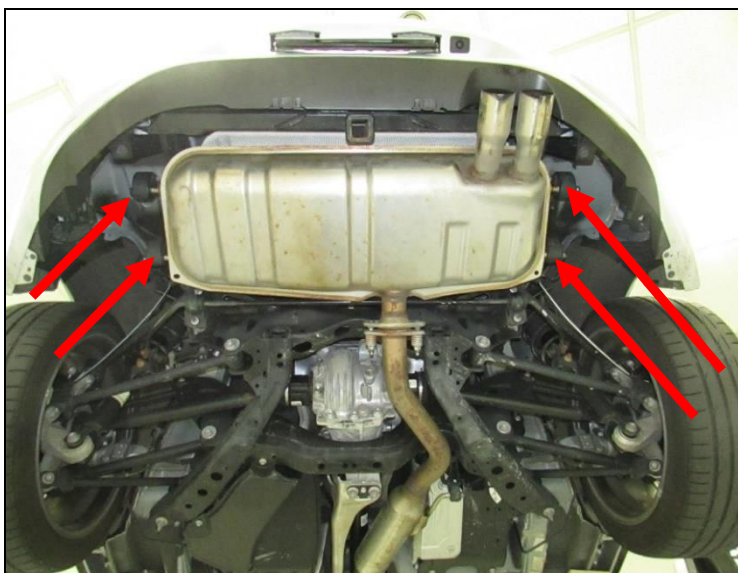

Figure 2
4. Spray the (x4) rubber isolator with lubricant. We recommend using WD-40® or equivalent (**Figure 2**).